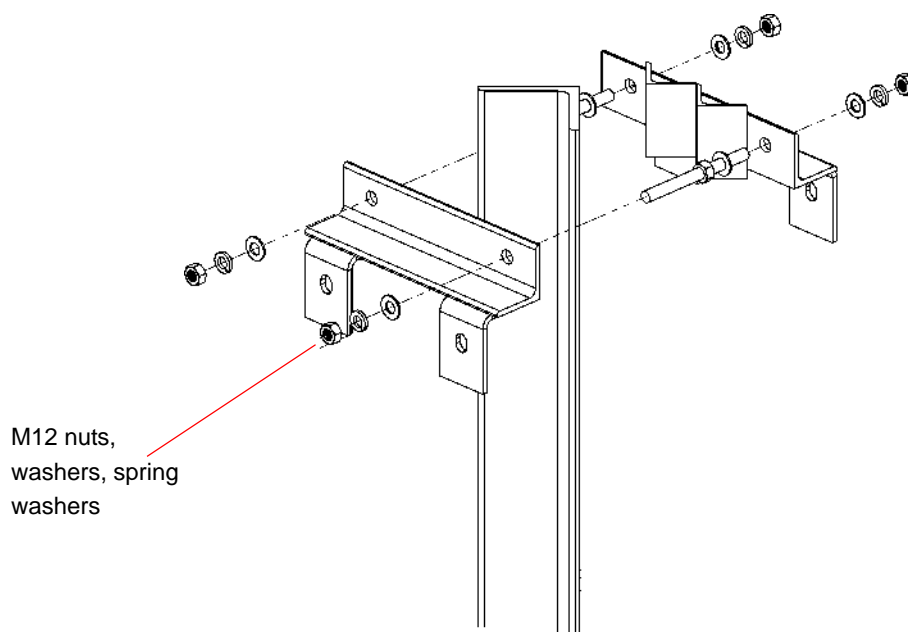

Figure 27: Assembling the Upper Mounting Brackets
- 3 Assemble the upper mounting brackets at the desired location on the L-shape mast. Tighten using the supplied washers, spring washers and M12 nuts (Figure 27). Apply torque of 53 [N*m] (465 [lbs*in]).